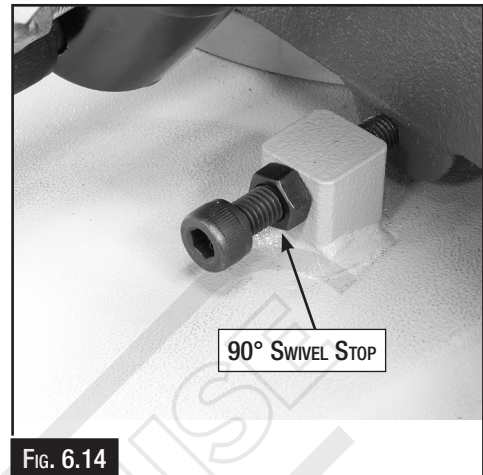

FIG. 6.14
4. Check that the "0" head stop is hard up against the stop. If there is a gap between the pad (Fig. 6.14) and the stop screw, then loosen the lock nut and adjust the stop bolt until it rests against the pad.